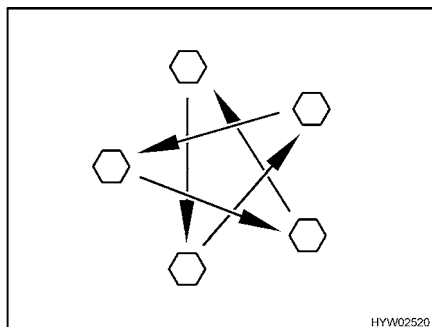

Fig. 132 Tighten the wheel nuts or wheel bolts cross-wise
- Check regularly that the wheel nuts or wheel bolts are firmly seated. Re-tighten the wheel nuts or wheel bolts of a changed wheel after 50 km (30 miles) (Fig. 132).
- When using new or newly painted wheel rims, re-tighten the wheel nuts or wheel bolts once again after approx. 1,000 to 5,000 km (600 miles to 3,000 miles) (Fig. 132).